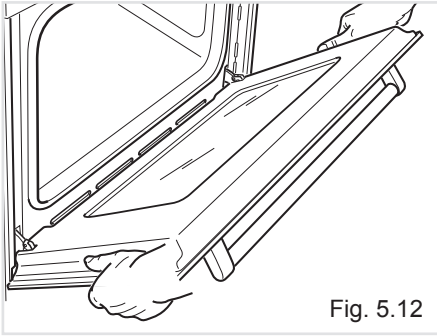

Fig. 5.12
- Hold the door as shown in fig. 5.12.
- Hold the door firmly (fig. 5.12).